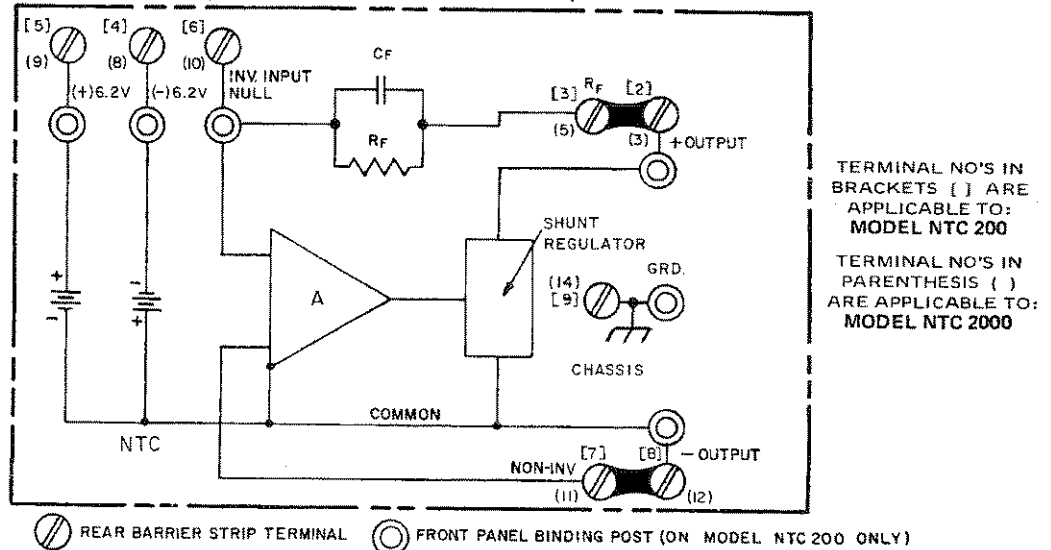

FIG. 3-1 FRONT AND REAR CONNECTIONS, NTC MODELS.
- a) Input and output connections may be made either at the front panel or at the rear barrier-strip (TB201) where all front panel terminations are duplicated. (Refer to FIG. 3-1.) Extra terminals are provided at the rear barrier-strip for disconnecting the feedback components (R_f , C_f) from the (+) output and to make the noninverting amplifier input available for special applications.